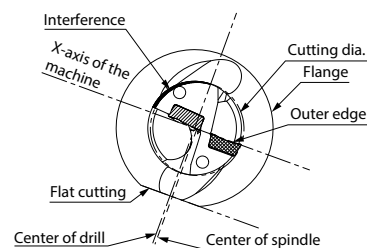

Fig. 4 Excessive offset (For smaller hole diameter)
- Align the drill with the outer insert face parallel to the X-axis of the tool turret. (Fig. 4)
Be sure not to make the hole diameter smaller than the drill diameter by 0.2 mm or more. Otherwise, the toolholder will interfere with the drilled hole. (Fig. 4)